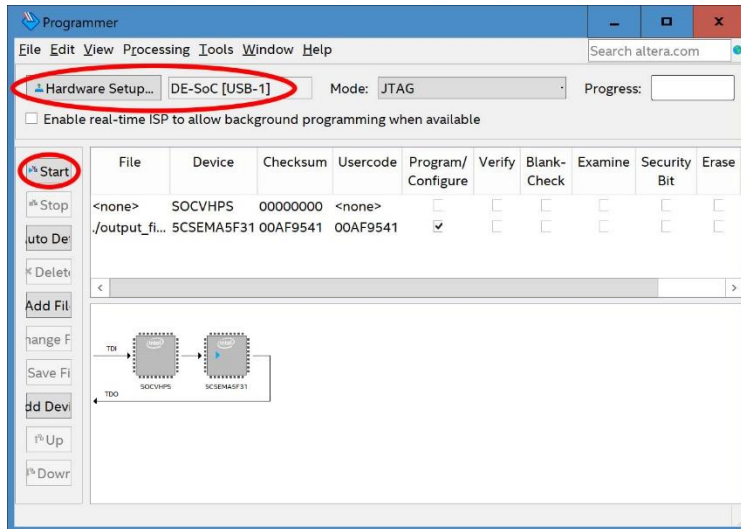

Figure 14: Programmer dialog box with the "Start" and "Hardware Setup..." buttons highlighted.
- 4) This will bring up the Programmer dialog box (*Figure 14*).